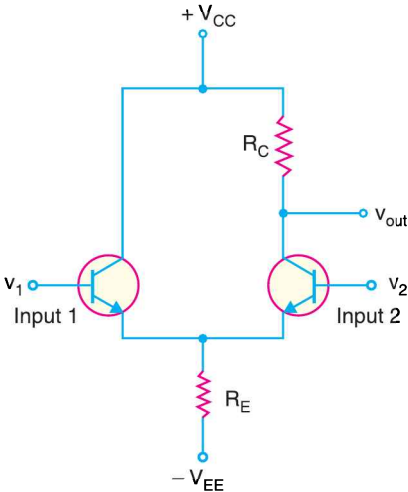

Fig. 25.20
Fig. 25.20 shows double-ended input and single-ended output differential amplifier (DA). In other words, there are two input signals and one output signal. A DA is normally operated in this fashion. When input signal v_1 (input 1) is applied, the output signal is in phase with the input signal i.e., there is no phase shift in the output signal. For this reason, input signal v_1 is called *non-inverting input*. When input signal v_2 (input 2) is applied, the output signal is 180° out of phase with the input signal. For this reason, input signal v_2 is called *inverting input*.